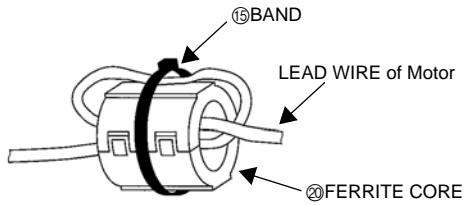

Fig. 5
(6) Unclamp the wire from CLAMP (b), install ②FERRITE CORE on the motor wire, and wrap ⑬BAND around it. (Fig. 5)